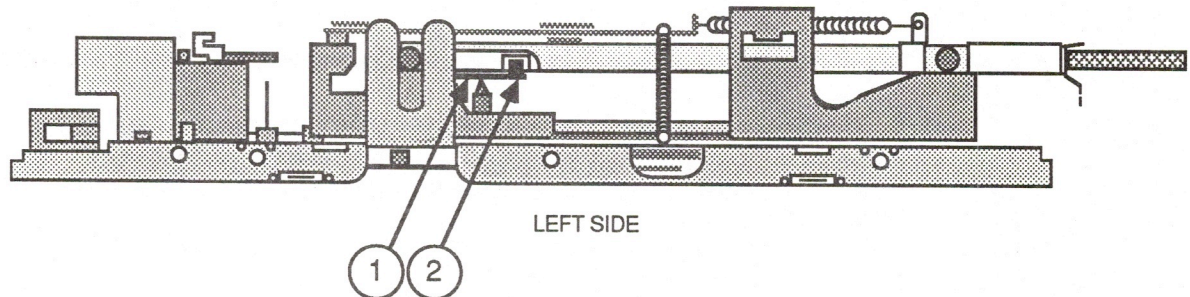

FIGURE 2
6. Locate the small arm with a cylindrical cog at its end. This arm is located near the left-to-right center of the drive mechanism (see Figure 2, #1). This cog will be caught in the half-moon depression of the diskette case.
7. Insert a small screwdriver at the position shown in Figure 2, #2 and **gently** move the arm away from the diskette until the diskette pops forward slightly. Remove the diskette from the disk drive.